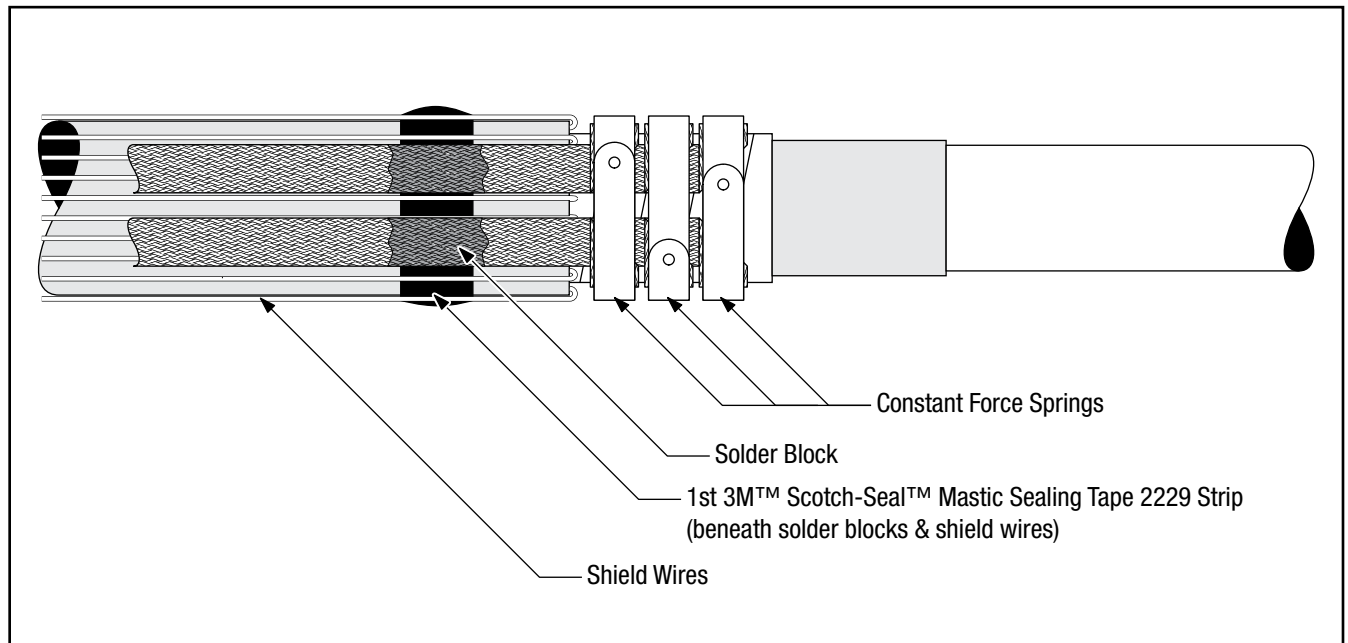

Figure 14
- 4.3 Select the roll of 1" (25 mm) wide 3M™ Scotch-Seal™ Mastic Sealing Tape 2229 from the kit. Cut a length of mastic long enough to wrap around the cable jacket. Lift the ground braid tails and shield wires. Remove the release liner from the mastic and using light tension, apply a **SINGLE WRAP** of mastic around the cable jacket positioned under the ground braid solder blocks and shield wires. Fold the shield wires, evenly spaced, back over the mastic. (Figure 14)